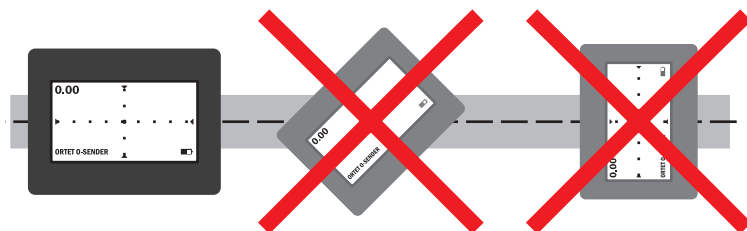

Fig. 43: **SONDE (Peak +)** locating mode - receiver aligned correctly above the line (left)
4. The receiver must be correctly aligned to determine the depth (fig. 43). Turn the receiver so that the display is parallel to the line with the sonde. Check the alignment even if you are not instructed to **ALIGN** in the instruction field.